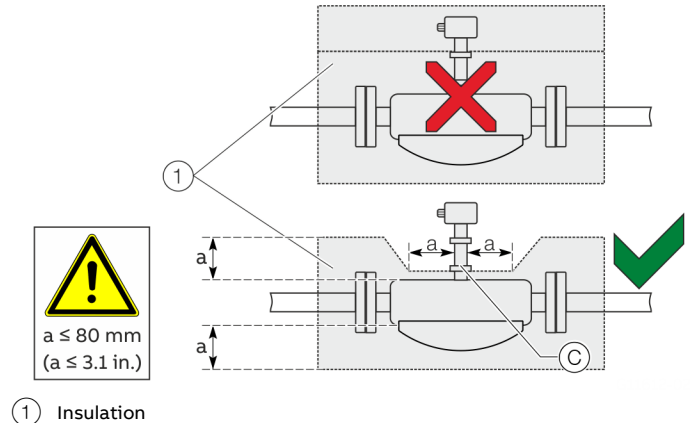

Figure 14: Installation at $T_{\text{medium}} -50^{\circ}\text{ to }205^{\circ}\text{ C } (-58 \text{ to } 400^{\circ}\text{ F})$
The sensor may only be insulated in conjunction with the option TE1 'Extended tower length for sensor insulation' or TE2 'Extended tower length – insulation capacity with dual gasket,' as shown in Figure 14.
When operating the sensor in conjunction with heat tracing, the temperature at point ③ (Figure 14) $100^{\circ}\text{ C } (212^{\circ}\text{ F})$ may not be exceeded at any time!